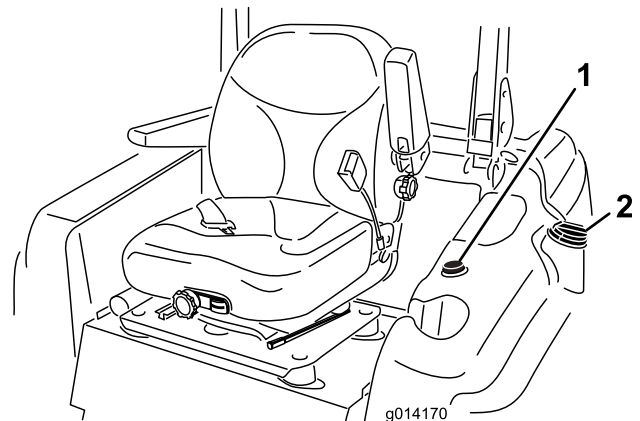

Figure 11
3. Clean around the fuel tank cap and remove the cap (Figure 11).